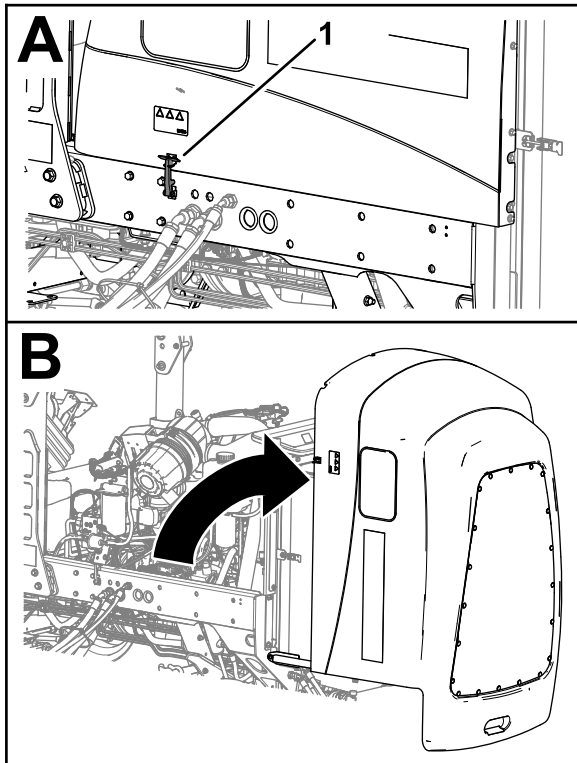

Figure 96
1. Release the 2 hood latches (Figure 96).